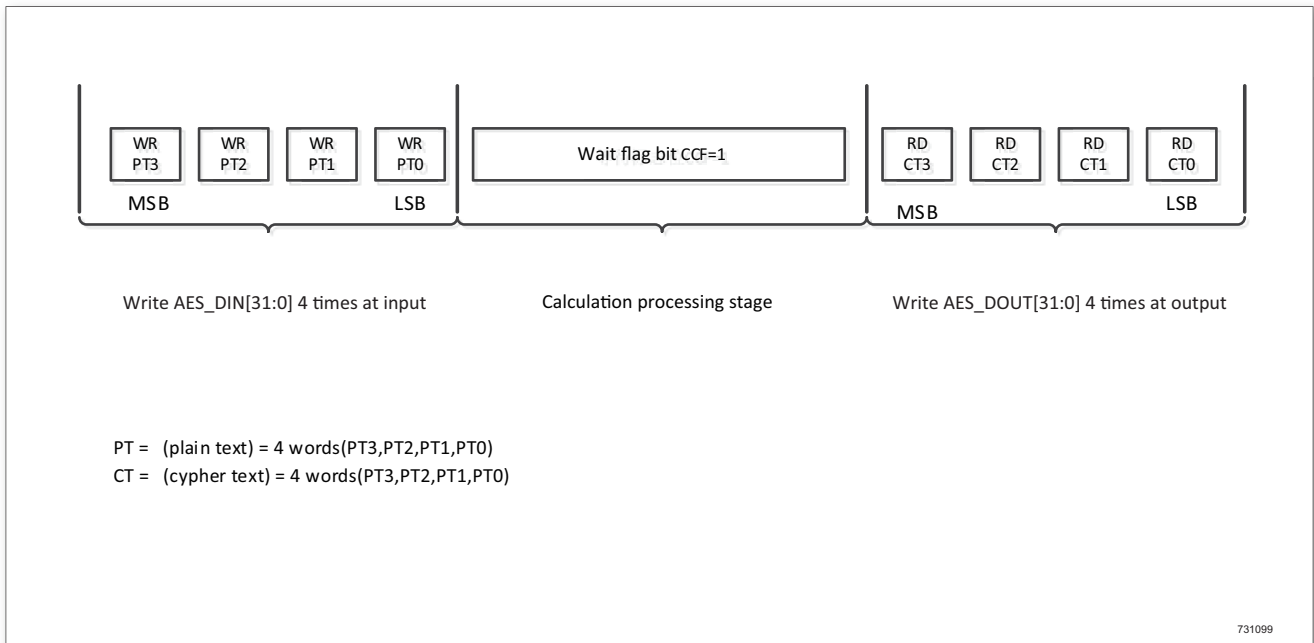

Figure 270. Mode 1: Encryption
6. Write the AES\_DINR register 4 times, to enter plain text (MSB first), as shown in Figure 270.
8. Read the AES\_DOUTR register 4 times to fetch the ciphertext (MSB first), as shown in Figure 270.